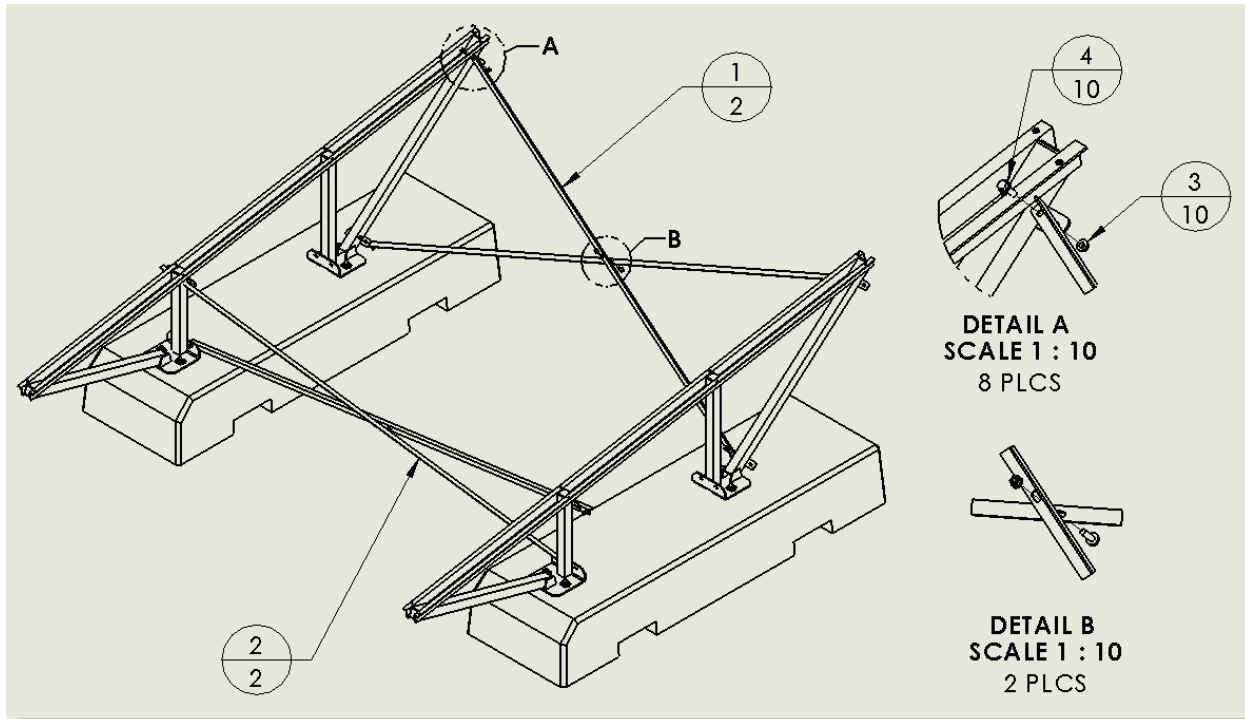

Figure 4
- a. REFERRING TO FIGURE 4 AND TABLE 2, SECURE THE (2) NORTH AND (2) SOUTH CROSS SUPPORTS USING THE HEX BOLTS AND FLANGE NUTS (SEE DETAILS A AND B). DO **NOT** TIGHTEN ANY OF THE LOCK NUTS AT THIS TIME.